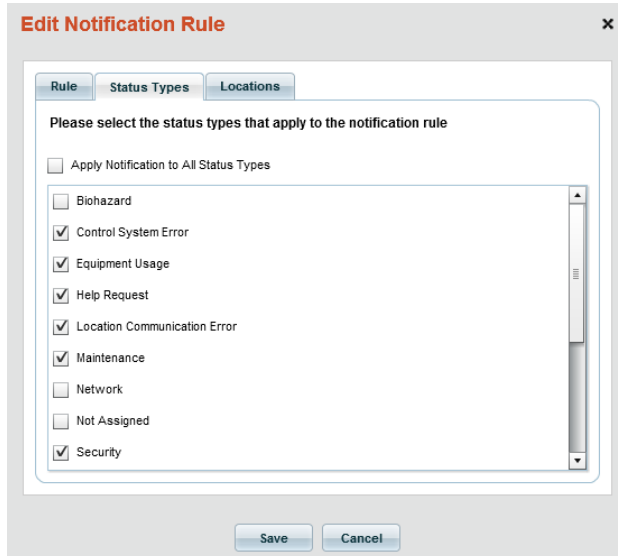

FIG. 141 Edit Notification Rule dialog - Status Types tab
4. In the **Status Types** tab (FIG. 141), select the status types that apply to this Notification Rule.